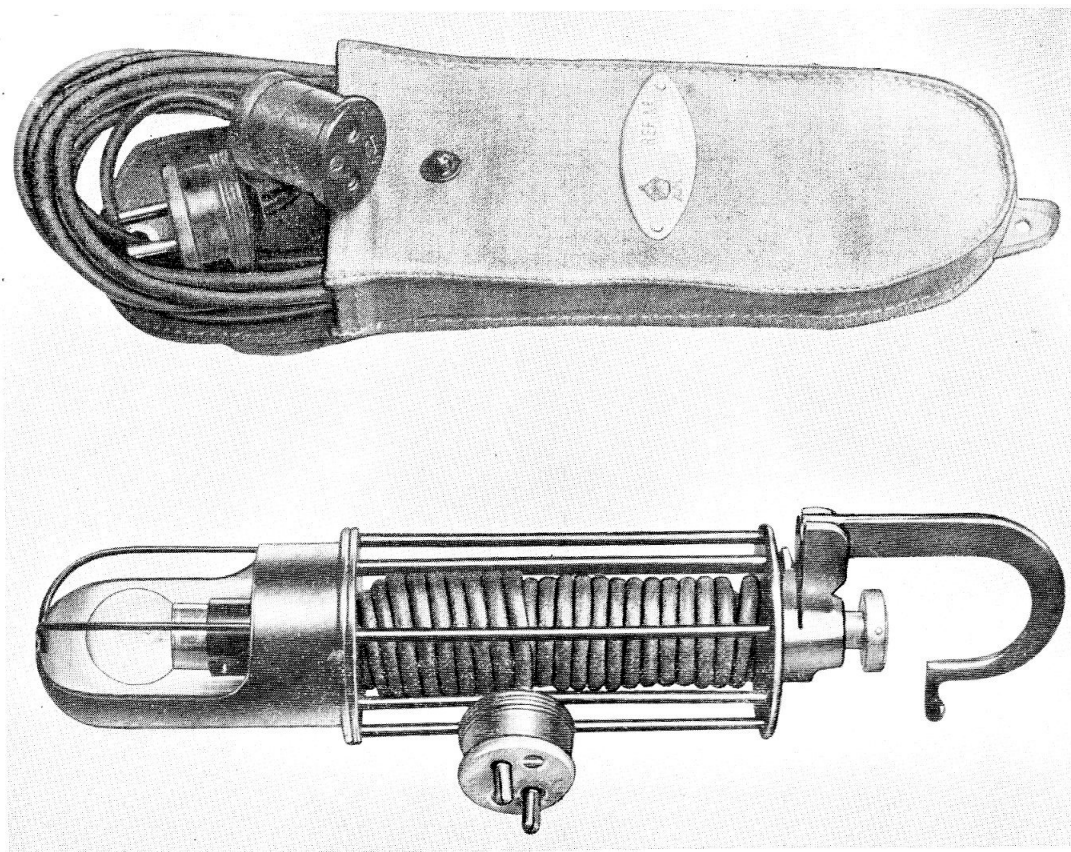
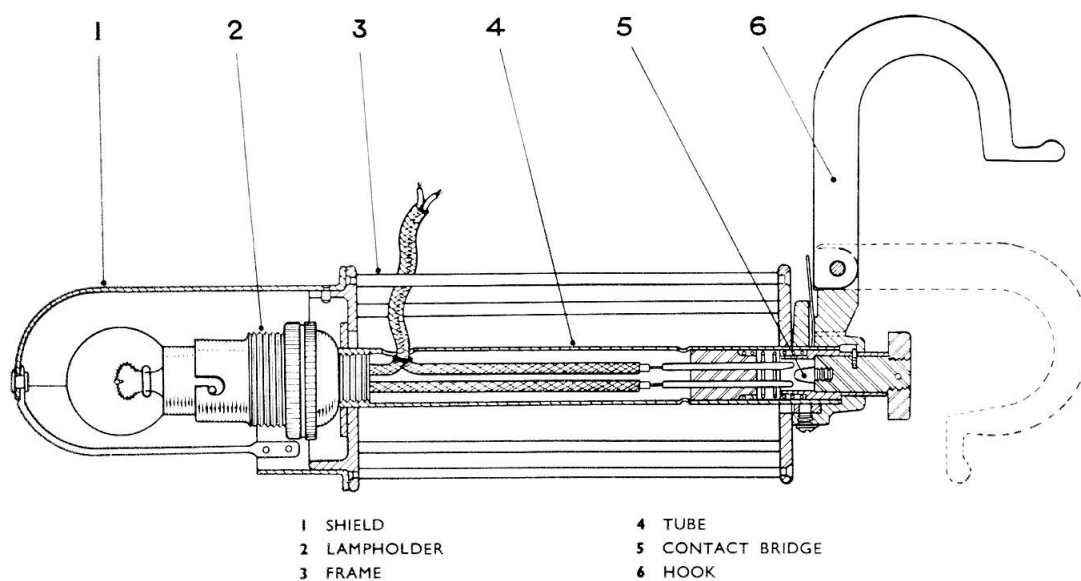

Fig. 1. Inspection lamp, Mk. 2, and extension leads
Fig. 2. Sectional view, inspection lamp, Mk. 2
2. A general view of the lamp and the extension lead is given in fig. 1. A small bayonet lampholder (fig. 2) is attached to a tube with a push-switch at the other end. The contact bridge of the switch, actuated by the push button, is mounted on an insulating block fitted into a spring-loaded sleeve.
4. The tube, lampholder, switch and hook assembly is free to turn in the outer frame, which consists of two circular end plates joined by bars to form a cage. The plate at the lamp end has a flange with three bayonet slots, to which a mask (fig. 1) is fitted to shade the light from the operator and reflect it on the equipment under observation.
6. A 2-pin plug is connected to the 10 ft. length of cable. The hook (*fig. 2*) can be turned and used as a winding handle, and by this means the entire length of cable can be wound on to the tube.